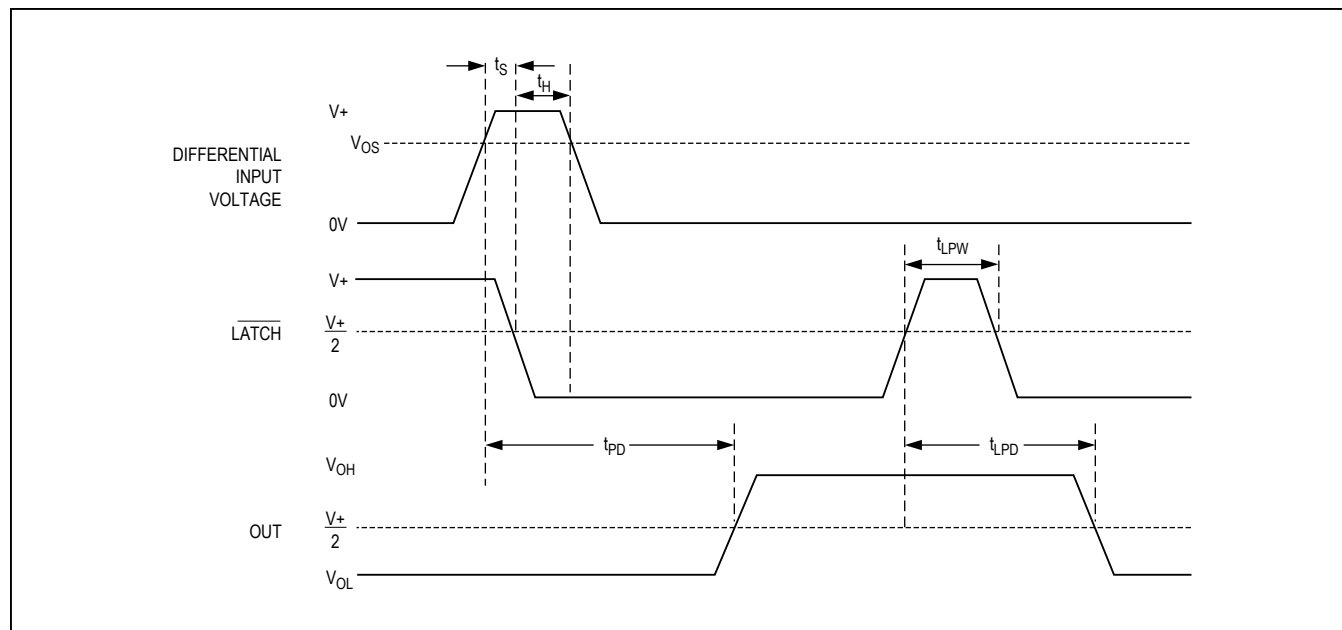

Figure 2. MAX941 Timing Diagram with Latch Operator
**Note 8:** Parameter is guaranteed by design and specified with VOD = 5mV and CLOAD = 15pF in parallel with 400μA of sink or source current. VOS is added to the overdrive voltage for low values of overdrive (see Figure 2).
**Note 12:** Applies to the MAX941 only. Comparator is active with LATCH pin driven high and is latched with LATCH pin driven low (see Figure 2).
The MAX941 includes an internal latch that allows storage of comparison results. The  $LATCH$  pin has a high input impedance. If  $LATCH$  is high, the latch is transparent (i.e., the comparator operates as though the latch is not present). The comparator's output state is stored when  $LATCH$  is pulled low. All timing constraints must be met when using the latch function (Figure 2).